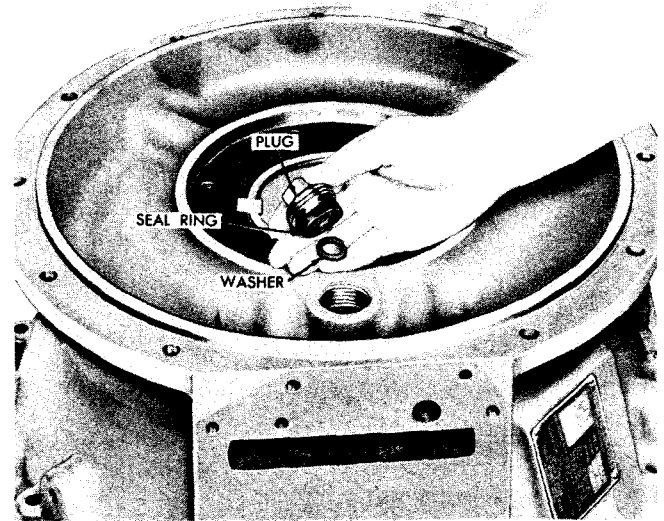

Fig VI-28. Removing (or installing) square-head plug, seal ring and lock washer from converter housing
(1) Remove the square-head plug, seal ring, and lock washer from the rear of the converter housing (fig. VI-28).
(5) Install the lock washer, seal ring and square-head plug (fig. VI-28) into the oil pump idler gear shaft bore.